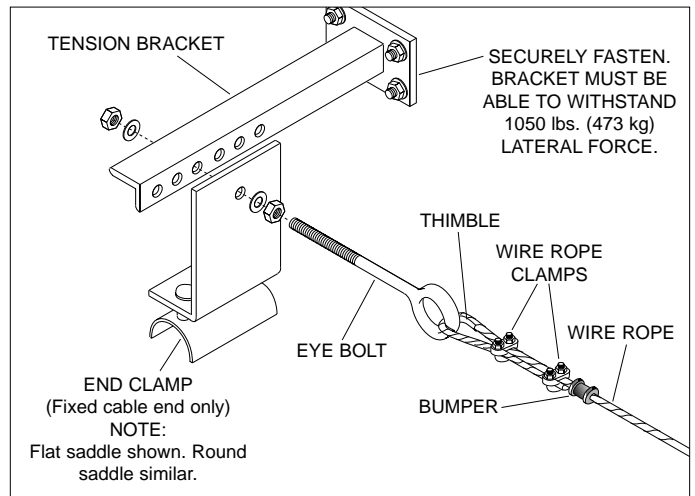
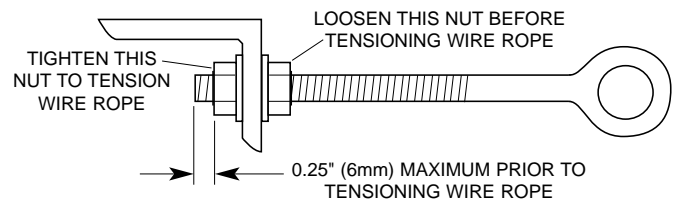

Figure 3
Figure 4
STEP 1– Mount tension brackets or other suitable device for holding stretched wire rope. See Figure 3.
STEP 2– Install eye-bolts in tension brackets with end clamp on **fixed cable end** of system only. See Figure 3. Eye-bolt should protrude maximum 0.25”(6mm) through nut (Fig. 4).
STEP 3– Slide rubber bumper onto wire rope. Thread wire rope through eye-bolt on one end of system. Install thimble in loop. Secure wire rope with two (2) cable clamps. See Figure 3. Repeat on other end, pulling wire rope as tight as possible before securing.
STEP 4– Tighten wire rope by turning nuts on eye-bolts. See Figure 4.